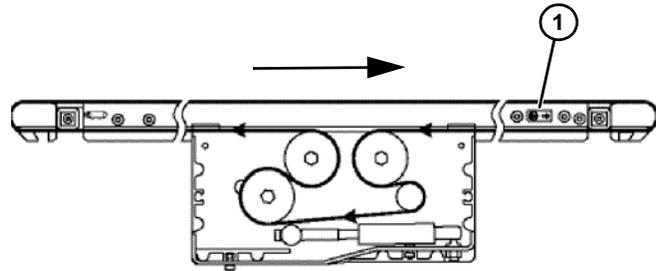

Figure 72
On a center drive conveyors, belt travel direction is identified by an arrow decal on the side of the conveyor (**Figure 72, item 1**) & (**Figure 73, item 1**).